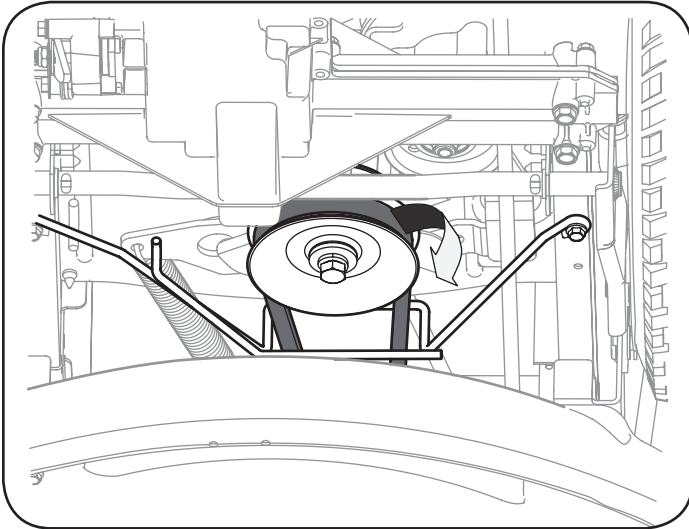

Figure 15
3. Remove the belt from around the tractor's PTO pulley. See "Figure 15".
3. Remove the deck belt from around the unit's PTO drive pulley as shown in "Figure 15". Simply roll one side of the belt off of the pulley and then work it off the pulley by continuing around the pulley until the belt is off of the pulley.
4. Pull the belt towards the front of the unit, pulling it through and out of the belt keeper bracket, shown in "Figure 15".
8. Feed the deck belt through the belt keeper bracket and work it around and onto the PTO drive pulley as shown in "Figure 15".